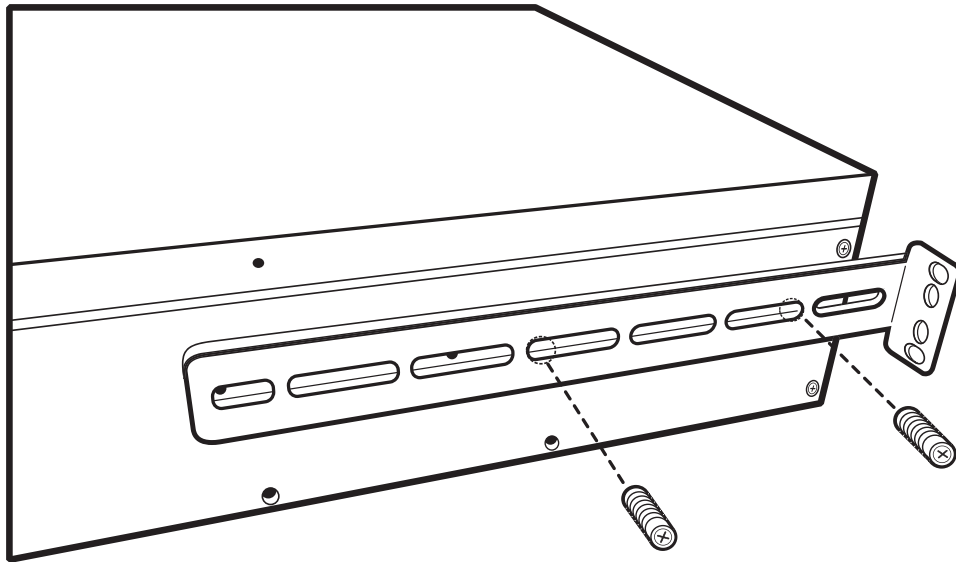

Figure 2.7 Attaching the Rear Brackets to the TMP6400-CTRL
1. Install the fixed brackets on the TMP6400-CTRL, adjusting their position in accordance with the equipment rack depth. See figure 2.7 on page 16.